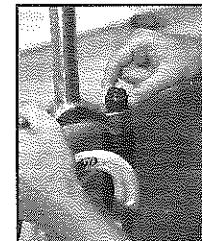

Fig. 50
2. Remove the compression damping assembly from the top left side of the fork by unthreading it counter-clockwise (Fig. 50).